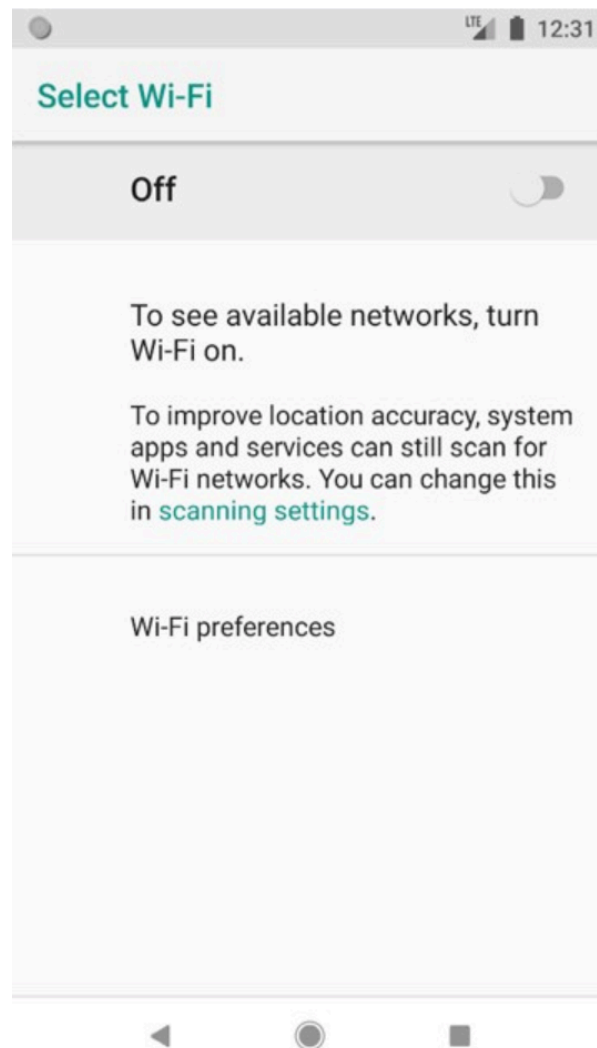

Fig. 8 – WiFi selection screen.
3. Ensure that WiFi is turned ON using the displayed slider (see fig. 8).